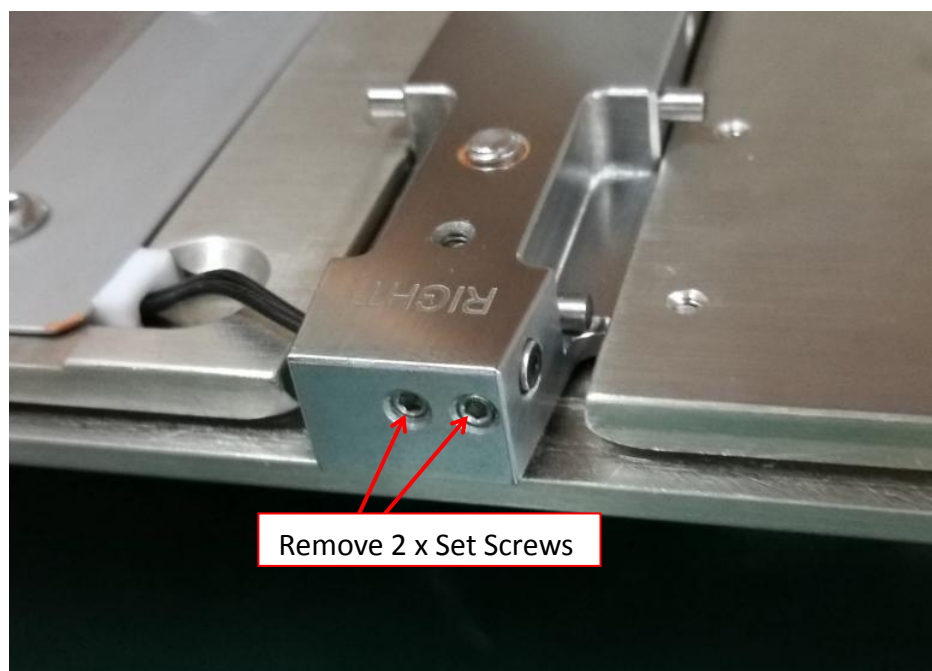

Figure 2 Set Screws removal
5. Remove 2 x Set Screws as shown in Figure 2.